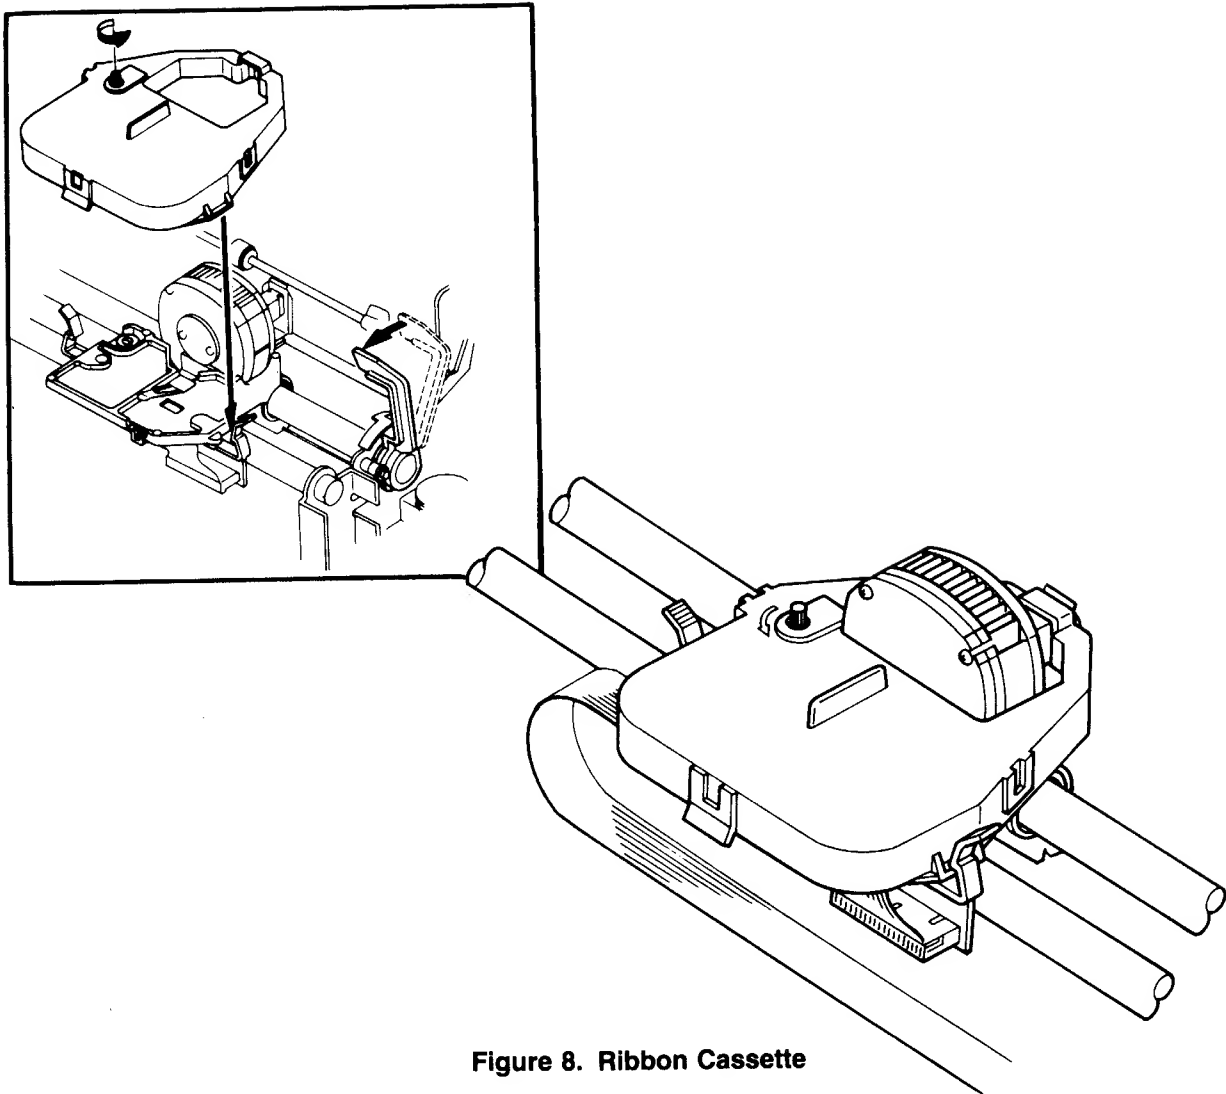

Figure 8. Ribbon Cassette
8. Move the Carriage back and forth manually to check that the ribbon advances properly. If the ribbon has not been properly fitted between the paper and Print Head (i.e., into the Print Head Ribbon Guide Bezel), the Ribbon feed will not operate smoothly. (See Figure 8.)